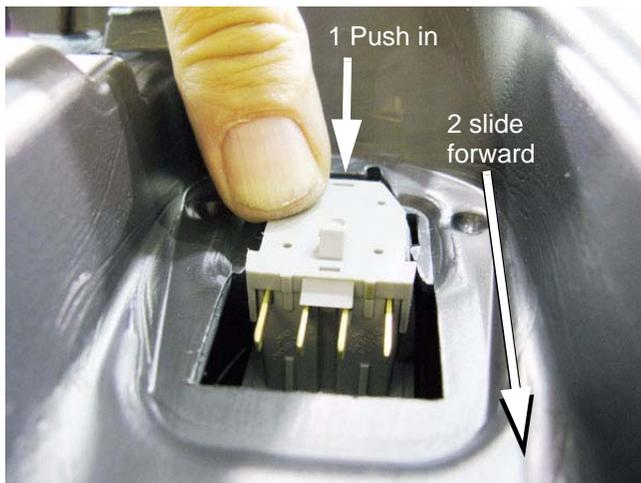

Figure 4.18
- 1g. To remove the seat safety switch: squeeze the tabs on the side of the switch, and push it into the seat base. See Figure 4.18.